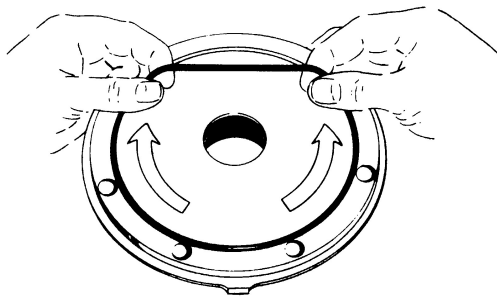

Figure 8 – Head O-Ring Installation
10. Install a new head O-ring (72) in the groove on the inside face of the head. Lay the O-ring flat and start in on one side of the groove, stretching ahead with the fingers, as shown in Figure 8.